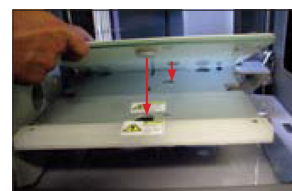

Fig. 25
3. To install the Print Pad, align the aluminum foot with front slot on the Print Plate base. (Fig. 25)
4. Place the Print Pad into position, when properly installed the magnet will lock it in place. Ensure that print pad is fully seated. (Fig. 25)